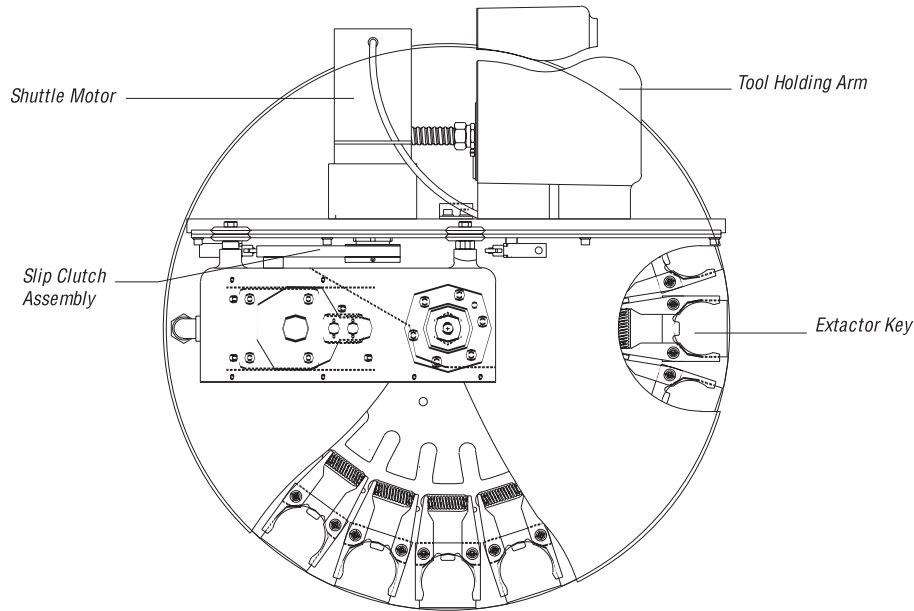

Figure 3-57. Automatic Tool Changer - Mechanical Assembly (Top View)
5. Loosen the set screw that secures the slip clutch assembly to the shuttle motor (see Fig. 3-57).
6. Using a small two-jaw puller, pull the slip clutch assembly (see Fig. 3-57) off the shuttle motor shaft.